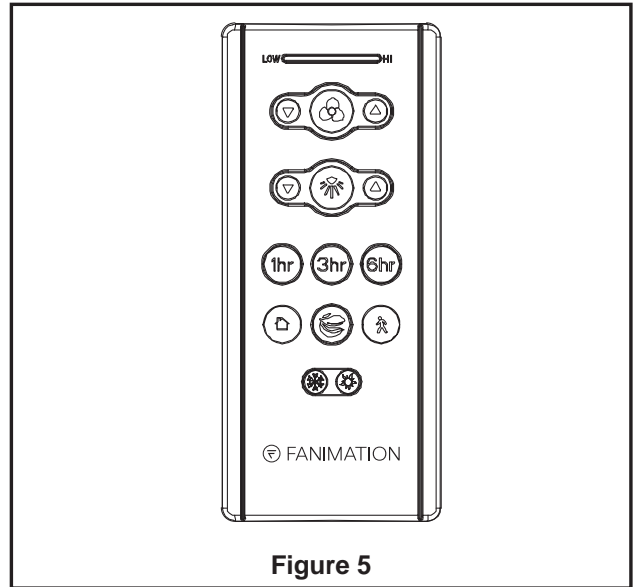

Figure 5
4. Once the connection has been made, attach canopy to cover the receiver and hanger bracket, taking care not to pinch the wires. (Figure 5)
### 7. Remote functions: (Figure 5)